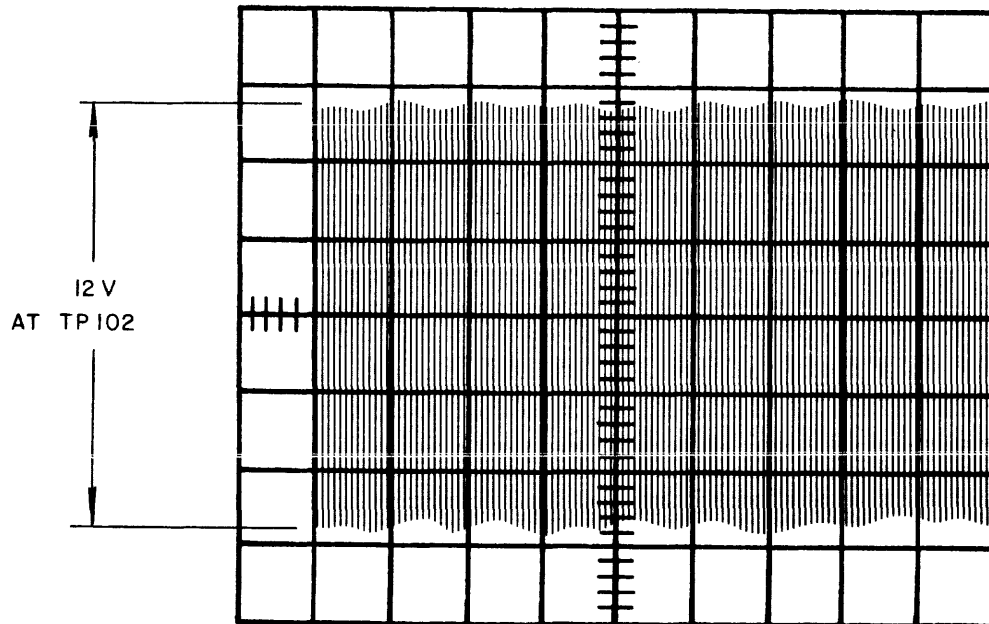

Figure 51. Read Amplifier Gain Adjustment, Dual Gap Systems
3. Connect Channel 1 scope probe to test point 102 and run tape forward. Adjust R118 so that the analog signal has a 12-volt peak to peak amplitude. (See Figure 51.)